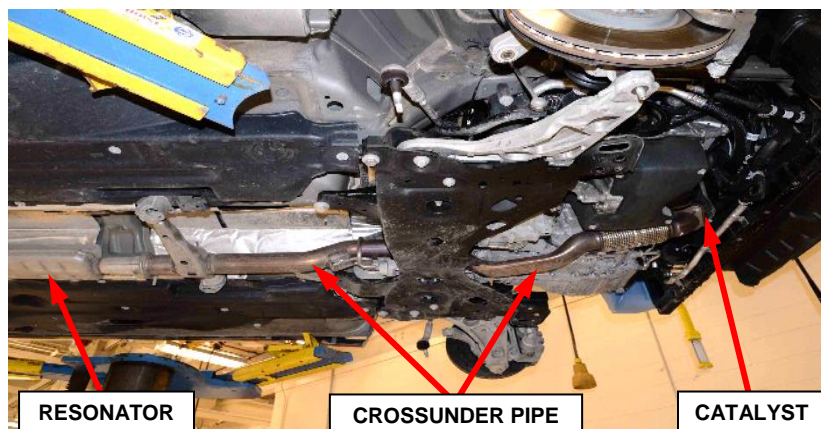

Figure 34 – Exhaust Crossunder Pipe
39. **2.0L Engine:** Remove the exhaust crossunder pipe following steps (a-h) (Figure 34).